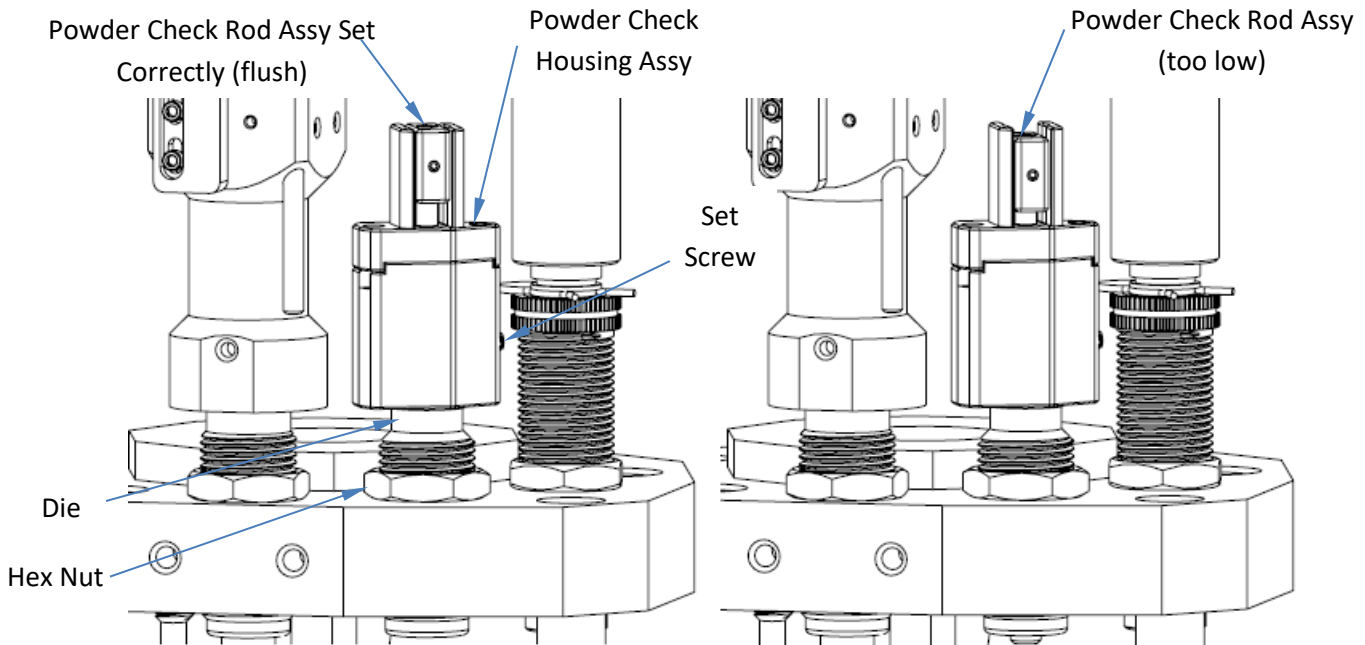

Figure 5: PowderCheck® Rod Assy alignment. Properly aligned (Left). Misaligned (Right).
8. Place a Case into the Shell Plate with the desired charge and bring the Tool Head all the way down. Thread down powder die, until the top of the powder check rod assembly is flush with the top of the housing. See figure 5. Once correct, tighten set screw so assembly does not move. Tighten die nut.